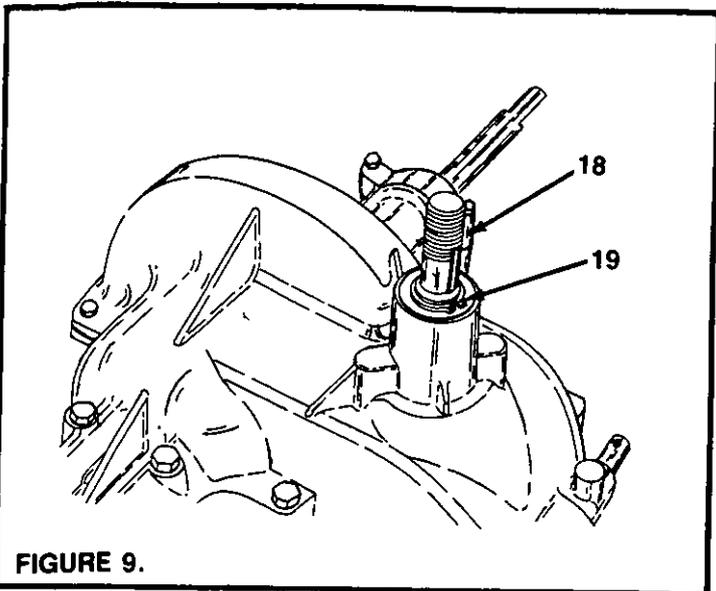

FIGURE 9.
6. Remove the snap ring from input shaft (see figures 9 and 10), using a pair of snap ring pliers.